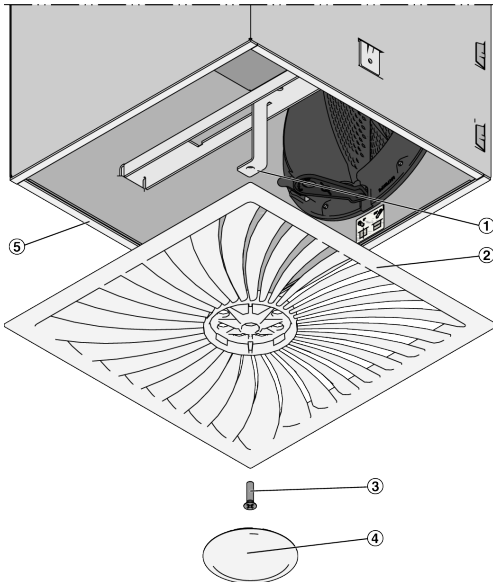

Fig. 9: Installing the diffuser face
1. ► Glue the seal (Fig. 9/5) onto the reverse edge of the plenum box.
2. ► Fix the diffuser face (Fig. 9/2) with the central fixing screw (Fig. 9/3) to the cross bar (Fig. 9/1) and cover it with the decorative cap (Fig. 9/4).